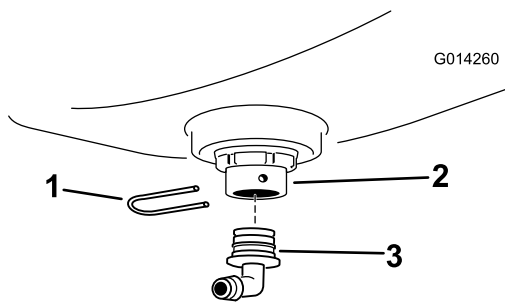

Figure 12
- G. Install a 90° barbed fitting onto the bulkhead fitting and secure the barbed fitting with a retainer (Figure 12).